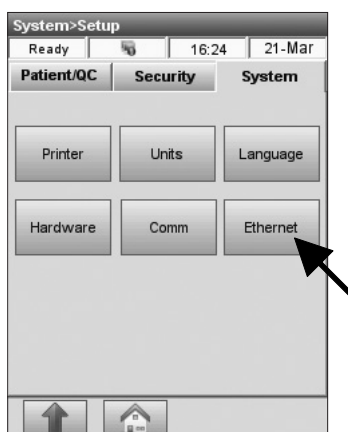

Fig. 3-83 Ethernet
2. In the **<System Setup>** menu, press the **<System>** tab and then **<Ethernet>** (Fig. 3-83).